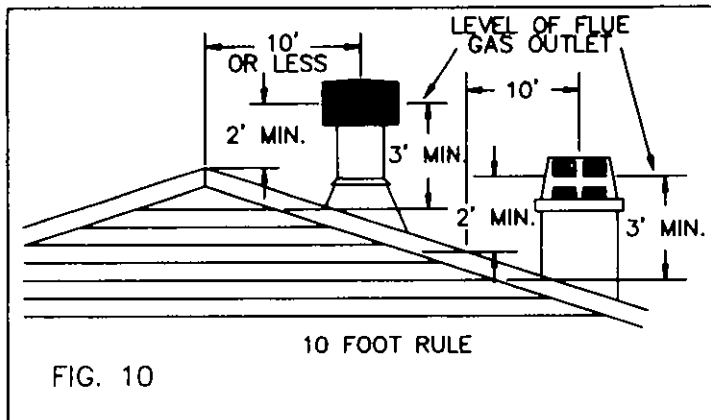

FIG. 10
STEP 5: Add the next sections of the pipe until the end penetrates the roof line. Check to see that proper clearances are maintained. Extend chimney by adding sections of double wall pipe until pipe is a minimum of 30 inches above highest point of roof cutout. Termination and chimney must extend a minimum of 36 inches above highest point where it passes through roof. See 10', 2' RULE (FIG. 10).
All chimney terminations must extend a minimum of 3 feet in height above the highest point where it passes through the roof and must be at least 2 feet above the peak of the roof if within a horizontal distance of 10 feet from the peak (See FIG. 10).